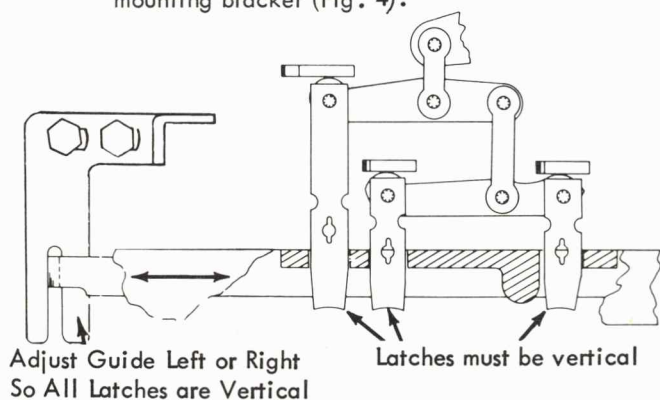

FIGURE 4. Latch Bail Guide
- b. The latch bail guide should be adjusted left or right so that all positive rotate and tilt selector latches hang vertically in the latch bail. The guide is attached to the lower left corner of the differential mounting bracket (Fig. 4).